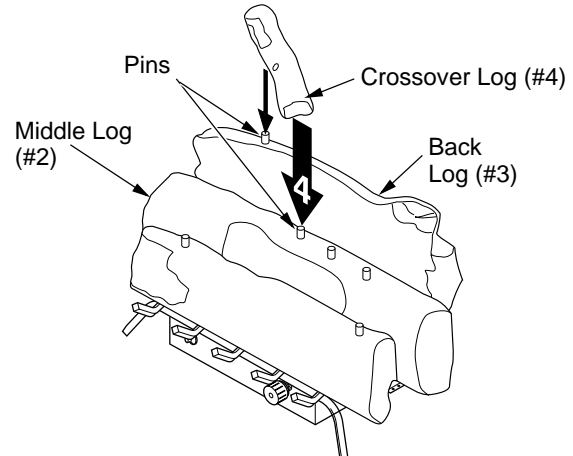

Figure 27 - Installing Crossover Log #4 (CCL3930PTB/NTB Shown)
4. Locate holes on the bottom of crossover log (#4). Slide front hole onto the left pin (CCL3924PTA/NTA or CCL3930PTB/NTB) or middle pin (CCL3018PA/NA or CCL3018PTA/NTA) on the middle log (#2) and the pin on the back log (#3). See Figure 27 for placement.